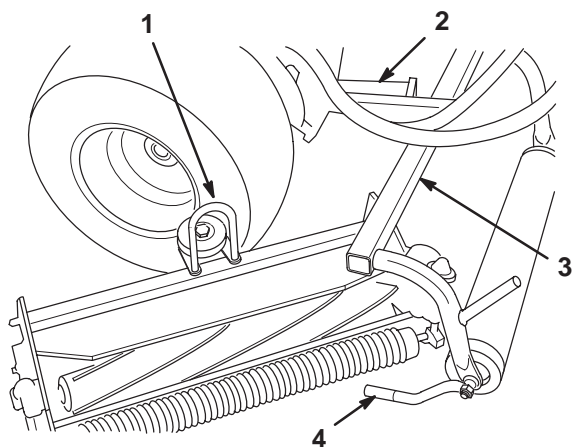

Figure 5
2. Slide the cutting units under the pull frames and position the hoop on the top of cutting units over the lift arms (Fig. 5).